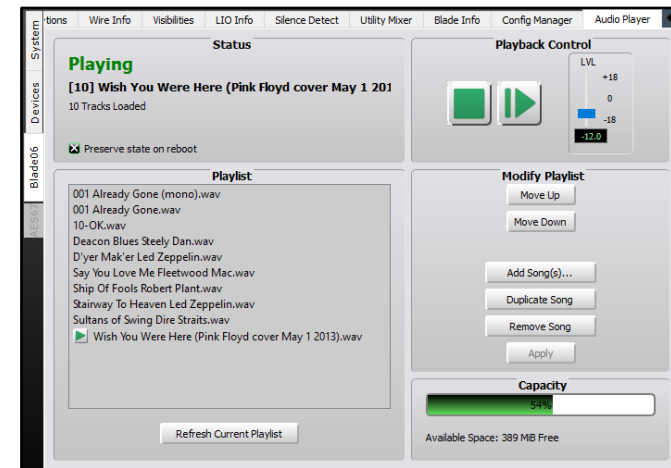

Figure 3-25 Audio Player Tab
Figure 3-25 shows the **Audio Player** tab, which is like the Clip Player built into the Arcus Surface. One can play test signals or other audio to test routing. In TV applications, it's often used for a confidence feed source to let remote users know they're connected to the station.
- ❖ *Change Login...*—opens the Login window shown in Figure 3-25 on the last page.
- ❖ *Change Password...*—opens the Admin Password change window shown Figure 3-25 on the last page.